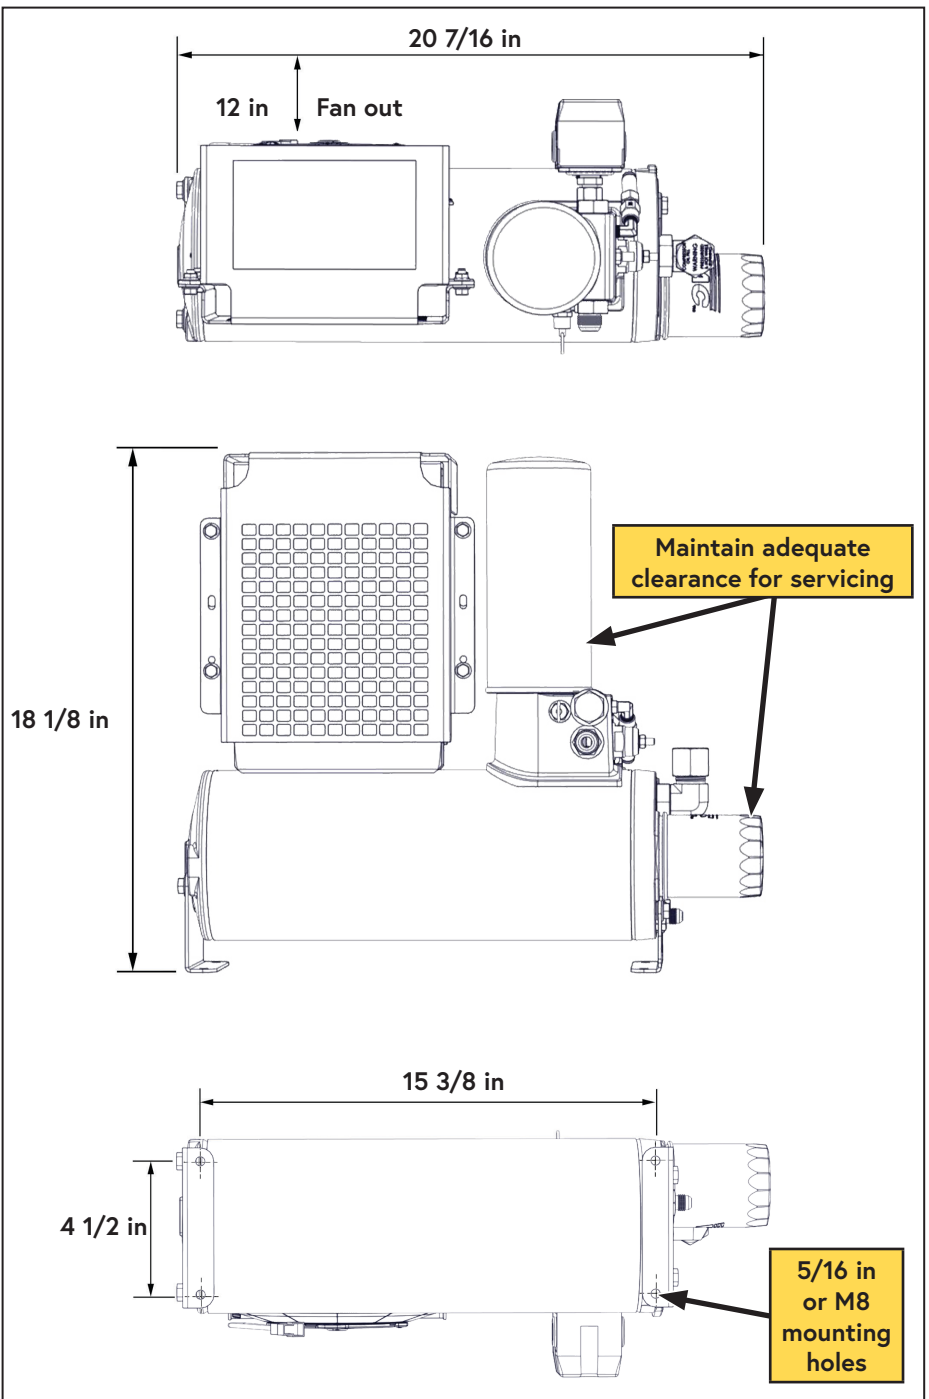

Figure 19 — Minimum WHASP Tank mounting clearances
- Remove the fasteners securing the fan stator and shift the fan stator toward the front of the vehicle (Figure 19).
Refer to (Figure 19) for mounting dimensions.